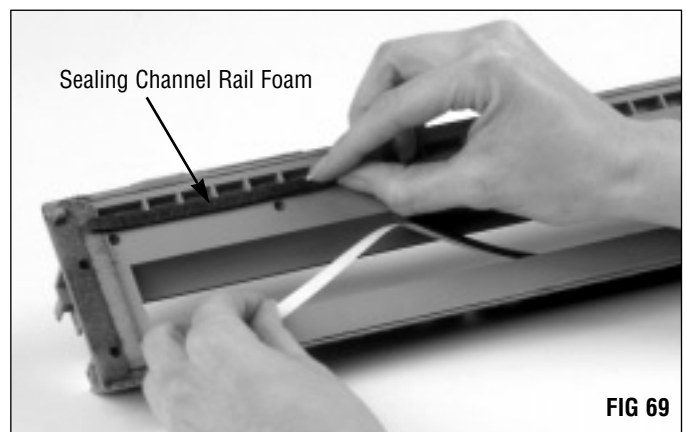

FIG 69
5. **Clean and inspect the sealing channel end foam on the mag roller section (FIG 69).**
The rail foam is installed along the sides of the mag roller section as shown in FIGs 69 and 70.